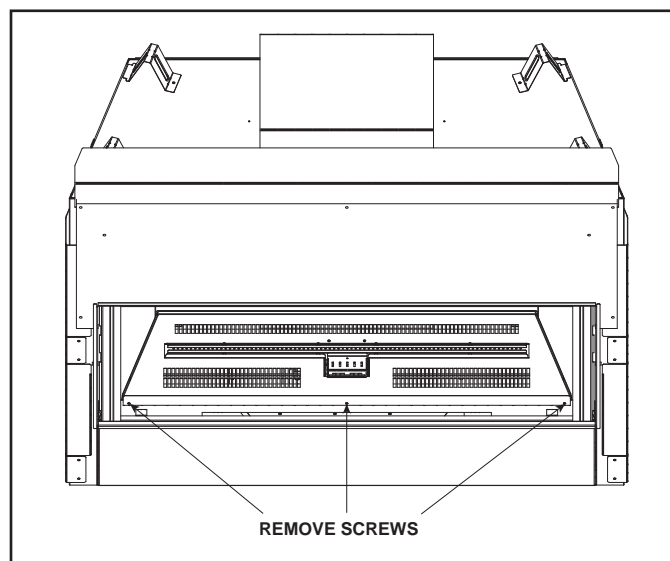

Figure 16.3 Remove Media Tray
2. Remove media tray by removing three screw located on the front edge of the media tray. See Figure 16.3.